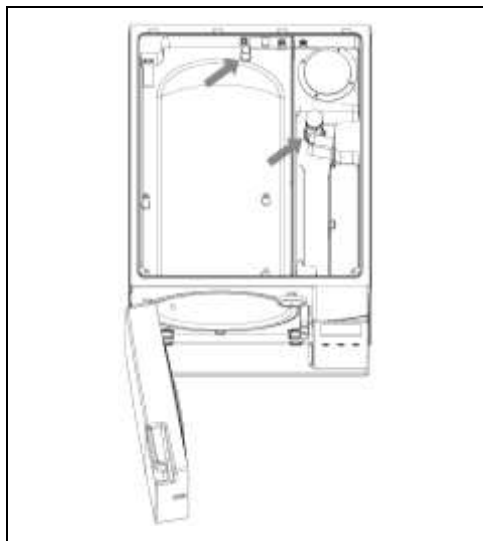

Fig. 10.2-8
6. Remove the filters of the clean and dirty water tank (Fig. 10.2-8), rinse away any deposits under running water and then reinstall them in the tank, taking care to position them correctly.